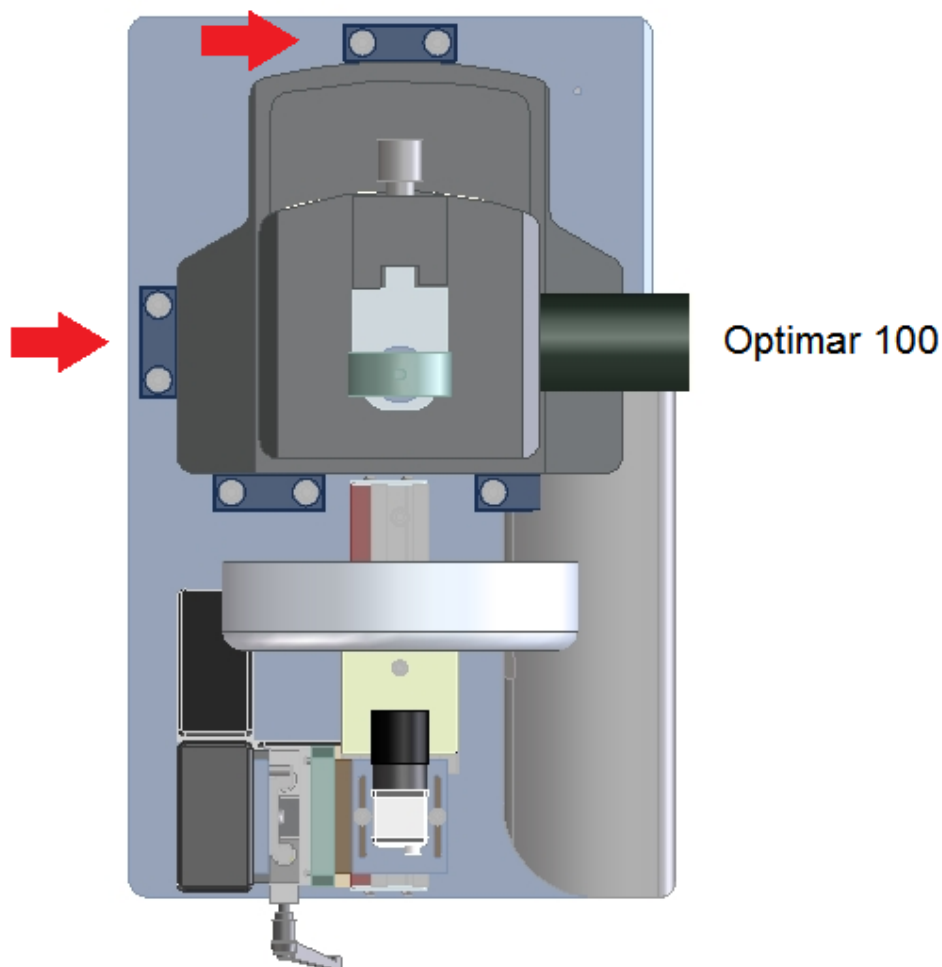

Fig. 5.2.2: Assembly scheme (top view).
The base plate (13) of the retrofit kit is equipped with one fixed stop bolt and four adjustable stops in the form of aluminum blocks [Fig. 5.2.2] with fixing screws, which can be fitted (within a limited range) to the socket of the dial gauge test devices.